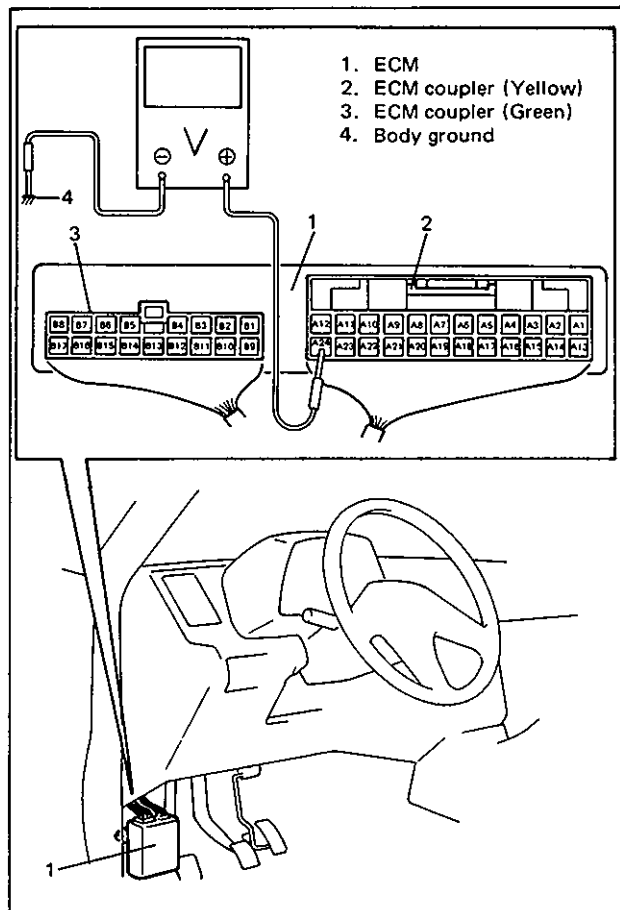

Fig. 6E-38 Checking Voltage and Terminal Position
- For ECM coupler terminal positions (A1, A2 . . . to A24 and B1, B2 . . . to B17), refer to Fig. 6E-38.